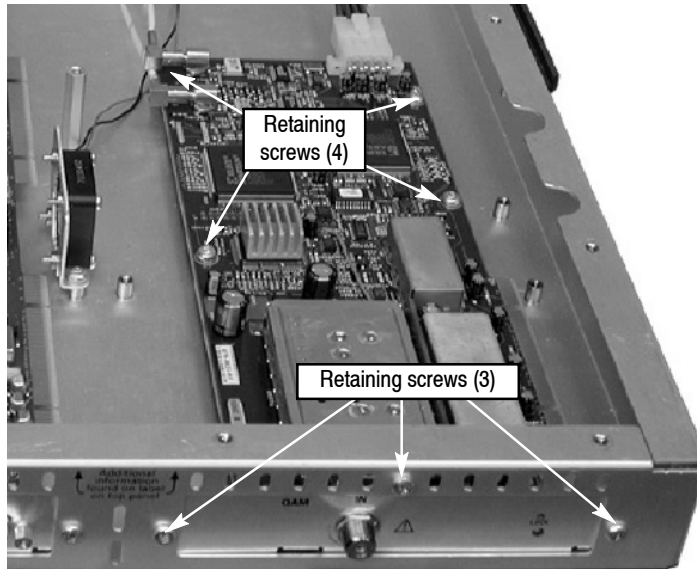

Figure 19: Retaining screw locations for QAM (Annex A), QAM (Annex B, old version), QAM (Annex C), and QPSK (L-BAND) interface boards
- a. For QAM (Annex A), QAM (Annex B, old version), QAM (Annex C), and QPSK (L-Band) interface boards, remove the four retaining screws from the board and remove the three retaining screws from the rear panel as shown in Figure 19.
- a. For QAM (Annex A), QAM (Annex B, old version), QAM (Annex C), and QPSK (L-Band) interface boards, install the four retaining screws in the board and install the three retaining screws in the rear panel as shown in Figure 19.